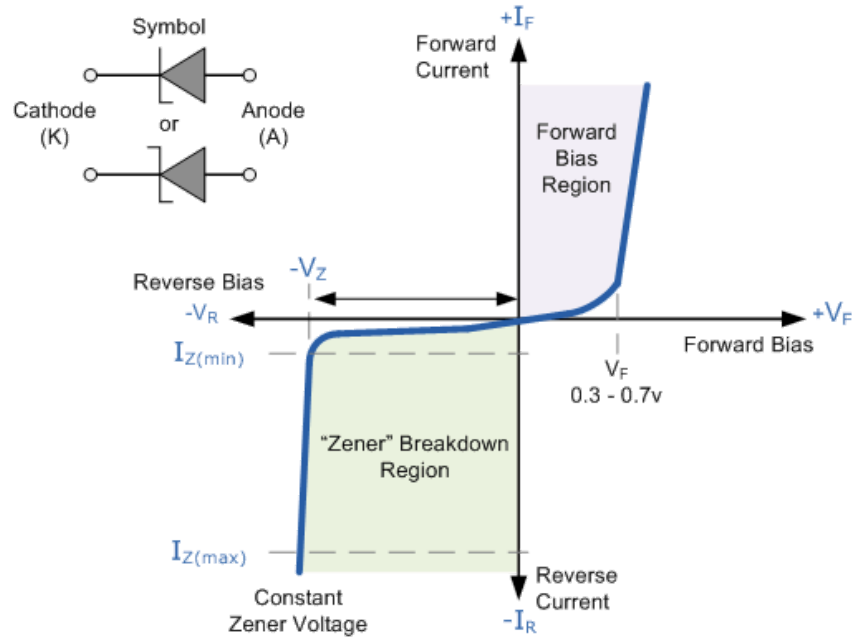

Figure 4. I-V Characteristic
- Figure 4. I-V Characteristic